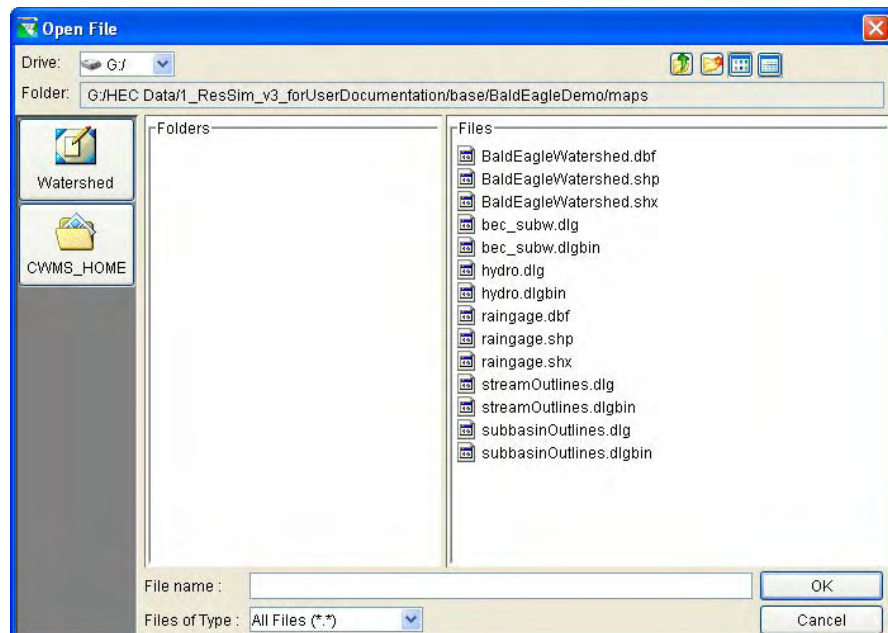

Figure 3.11 Open File Dialog Box to Add Map Layer
3. Next, from the **Maps** menu, select **Add Map Layer**. The **Open File** dialog box (Figure 3.11) will open.